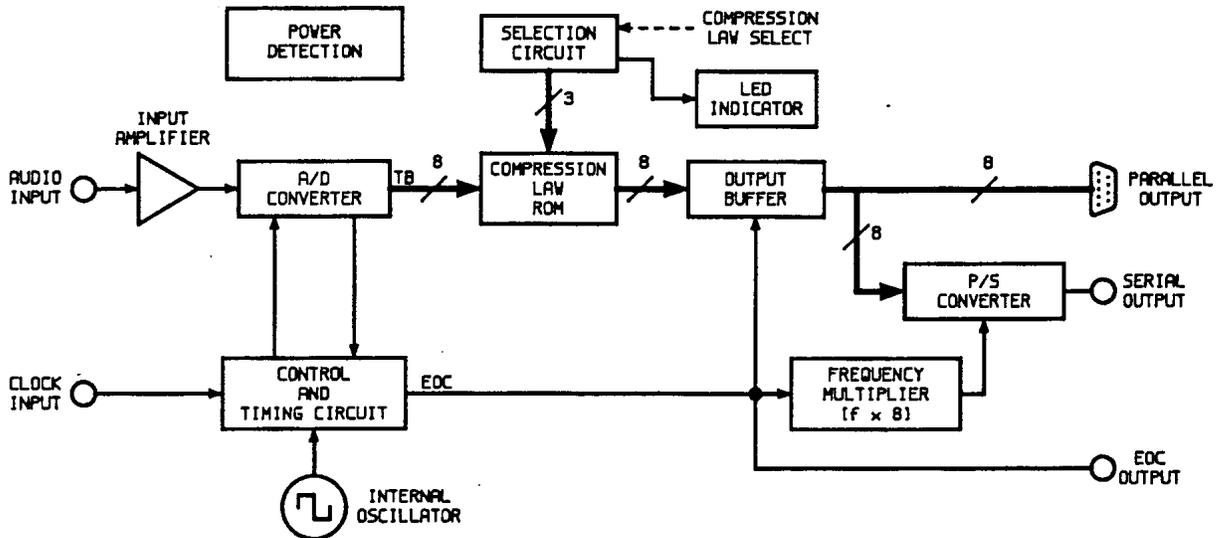

Figure 2. Block Diagram of the PCM Encoder.
Figure 2 shows the block diagram of the PCM Encoder. The PCM Encoder consists mainly of an 8-bit A/D converter. An input amplifier multiplies the audio input voltage by about 10. After conversion by the A/D converter, the resulting 8-bit word is sent to the TEST BUS output (TB) and to the compression law ROM (digital compressor).